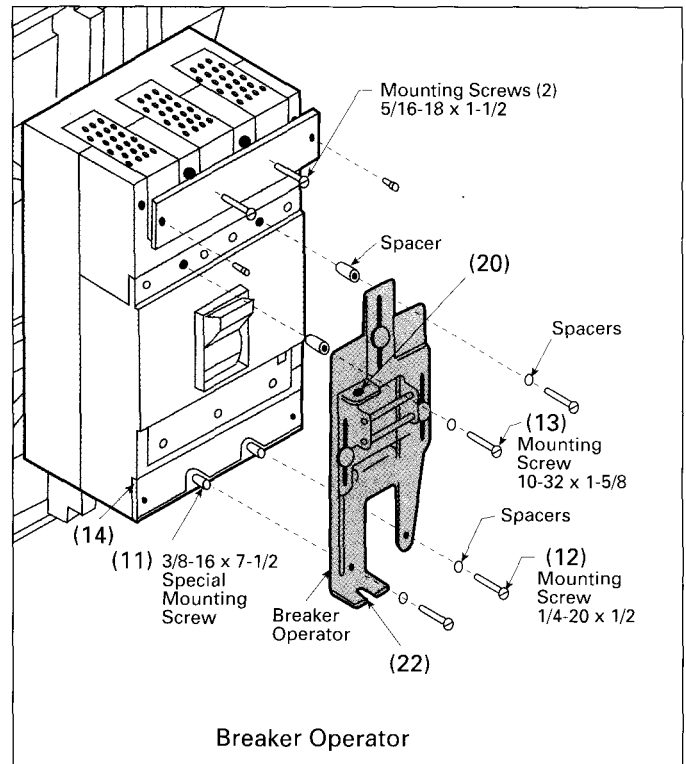

Figure 5
- The circuit breaker is attached to the mounting block at the top using two 3/8-16 x 1 1/4 mounting screws and at the bottom using two special 3/8-16 x 7-1/2 mounting screws (11). The breaker operator is attached to the circuit breaker using 10-32 x 1-5/8 screws (13) at the top and 1/4-20 x 1/2 screws (12) at the bottom (Figure 5).
- B. Remove the lower terminal shield (14) from the circuit breaker and punch or drill out the two .56" diameter knockouts.
- C. Cut slots in terminal shield as shown in Figure 5, to allow access to terminal lugs after installation of breaker operator.
- D. Mount circuit breaker to the mounting block using the four breaker mounting screws as shown in Figure 5.
- E. Remove the second screw from each end of the six cover mounting screws (located above the circuit breaker handle) and the breaker operator using two 1/4-20 x 1/2" screws and lockwashers in lower holes and two spacers and #10-32 x 1-5/8" screws and lockwashers in upper holes (Figure 5).
- E. Slide the threaded cable rod (19) through the hole in the sliding plate tab (20) of the circuit breaker operating mechanism (Figures 5 and 6).
- G. Place the cable mounting threads (21) into the slot on the fixed plate tab (22) so that the two mounting nuts (23) are on both sides of the tab. Adjust the two mounting nuts so that the #10 flatwasher on the cable rod just touches the sliding plate tab. Tighten the mounting nuts to secure the cable (Figures 5 and 6).
- H. Continue holding the operating handle in the ON position and place the spring (24) over the end of the rod. Screw on the spring adjuster (25) and tighten until it begins to compress the spring. **DO NOT OVERTIGHTEN THE SPRING ADJUSTMENT NUT.**